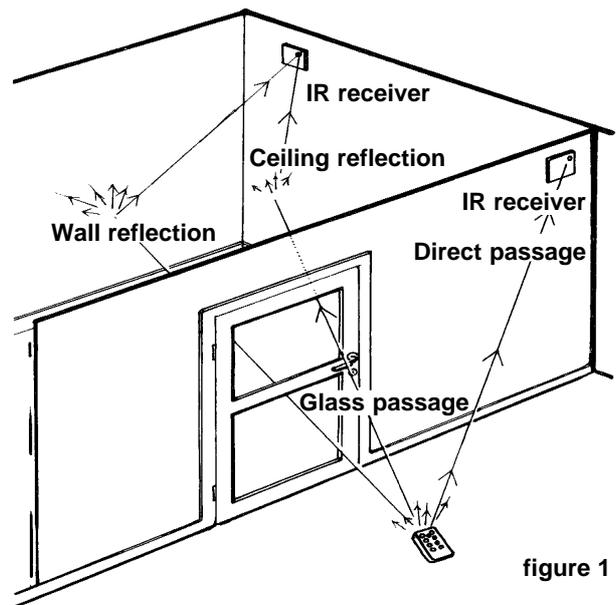

figure 1
The GewaLink system works with infrared (IR) light which is invisible to the eye. In principle IR light behaves in the same way as visible light i.e IR light doesn't pass through solid objects, like walls, but passes through glass and is reflected by light objects (figure 1).